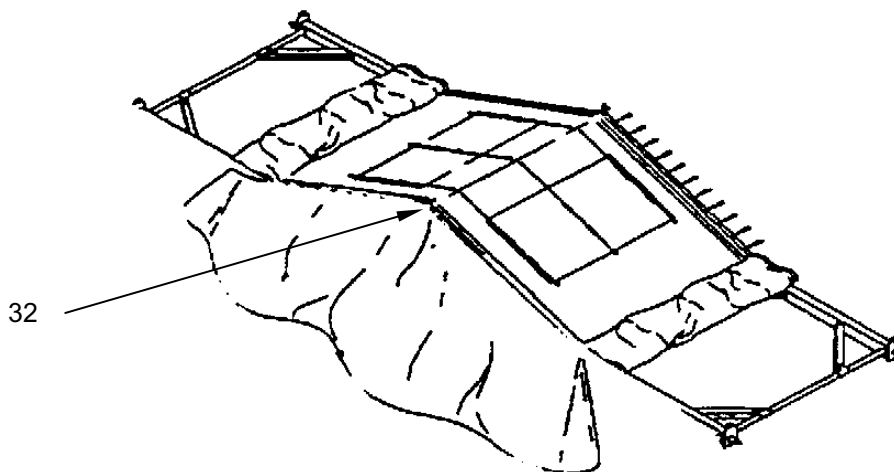

Figure 17. Placement of Modified End Section (ISO Bootwall).
3. Place large spindle grommet located at peak of modified end section over ridge spindle (**Figure 17, Item 32**) facing the container.